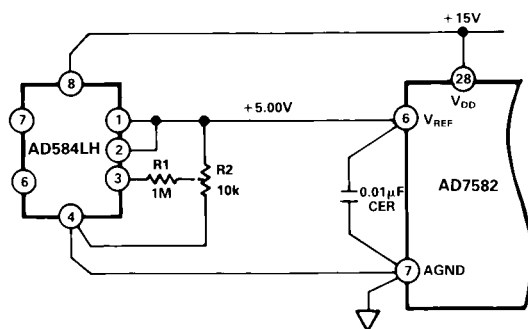

Figure 16. AD584LH as Reference Generator
**Reference Circuit:** Figure 16 shows how to configure an AD584LH to produce a reference voltage of 5.00V. R2 provides a typical adjustment range of  $\pm 75$ mV. The AD584LH will contribute less than 1LSB of gain error over the commercial temperature range.